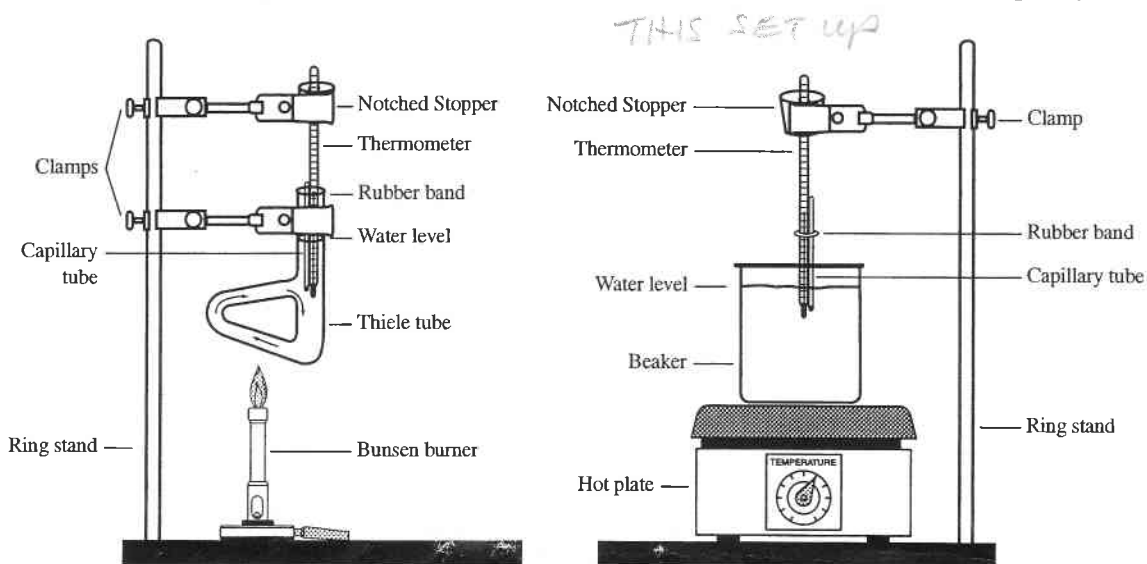

Figure 2.
- Immerse the bottom of the capillary and thermometer in a beaker of water (or a Thiele melting point tube filled with water) and heat (Figure 2). If using a beaker, stir the water to maintain an even distribution of temperature. The water bath may be heated rapidly in the beginning, but as the temperature approaches the melting point of alum, the water bath should be heated more slowly in order to get an accurate temperature reading of the melting point.